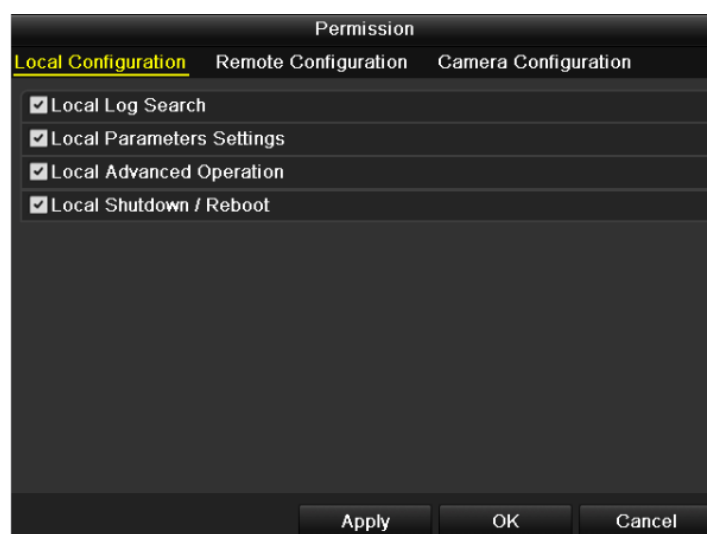

Figure 13.7 User Permission Settings Interface
5. Select the user from the list and then click the button to enter the Permission settings interface, as shown in Figure 13.7.